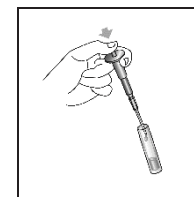

Figure 3
3. Holding the minipet over the selected sample container, depress the plunger to dispense the sample (figure 3).